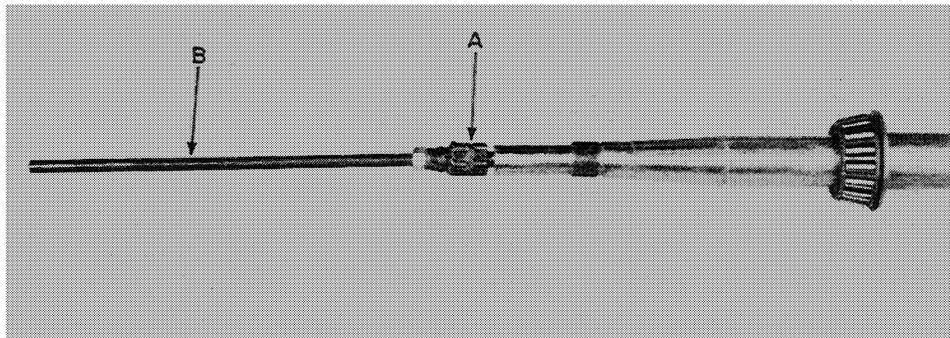

FIGURE 14A
- 1 Nut adapter - ¾" UNF to 5/8" UNC (19 mm - 16 mm) two ¾" (19 mm) UNF nuts welded together and welded to two 5/8" (16 mm) UNC nuts, which are welded together. Figure 14A shows the nut adapter, A, used to secure all-thread, B, to the left end of the shaft (Figure 11)